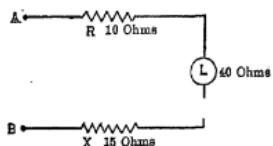

FIG. 30. The pieces R , L and X are in series.
Example 2. In the series circuit of Fig. 30, 3 amperes are flowing.
18. Application of Ohm's Law. It should be noted that in solving the Example on page 28, Fig. 30, Ohm's Law was used in (a) to find the voltage necessary to force the current through the whole circuit of the three resistances, R , L and X .